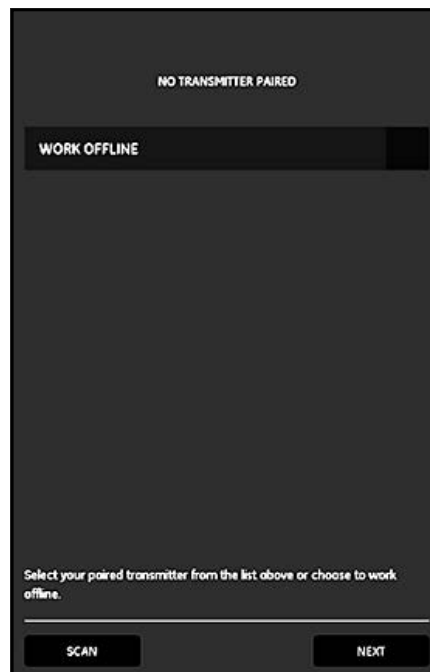

Figure 63: Initial Transmitter List
6. After the APP finishes loading, the default Transmitter list is displayed. During initial installation, this list is empty (see *Figure 63* below).